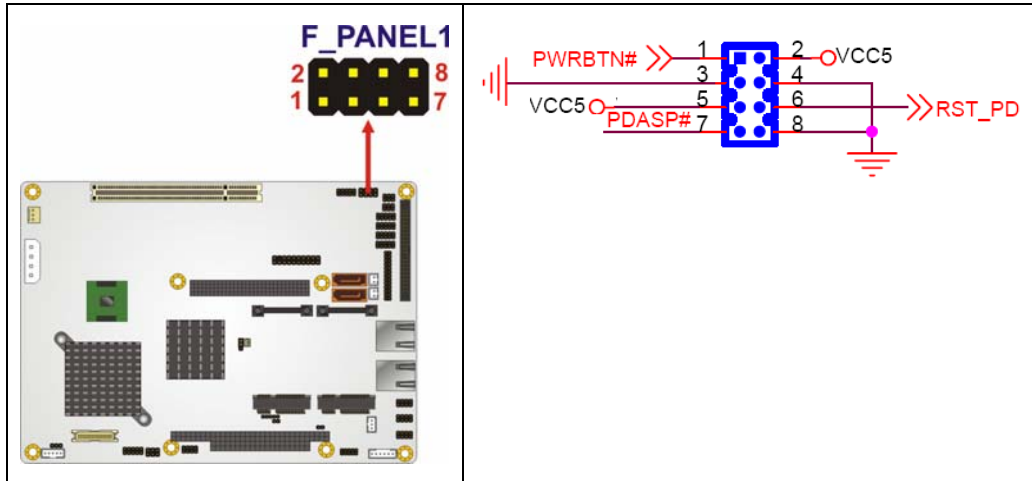

Figure 4-11: Front Panel Connector Pinout Locations (8-pin)
- CN Location:** See **Figure 4-11**